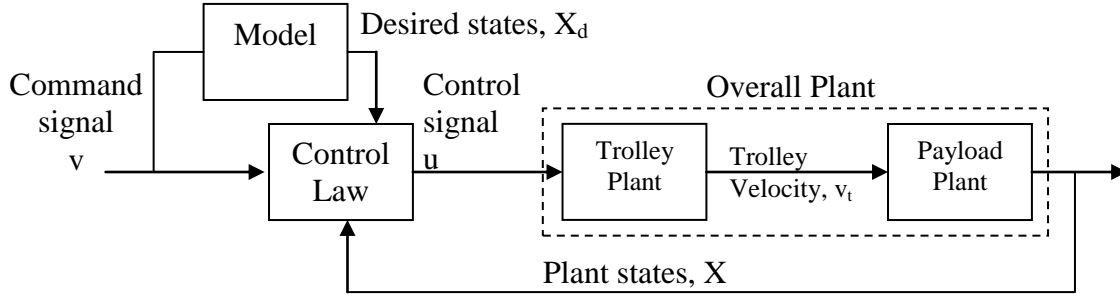

Figure 2: Model Reference Control on Payload Oscillation
The goal here is to force the payload oscillation to behave like a second-order model of your choosing. The block diagram is shown in Figure 2. The overall plant is the trolley and payload.
1. Design and simulate a model reference controller of Figure 2 to control the payload oscillation. Use the Matlab template or any other simulation software.
- Use the state space model in (4) for the payload plant i.e. $f(x,u,t)$. Assume $\omega_n = \sqrt{g/L}$, with L = suspension length = 1.0m, and $\zeta = 0.001$.